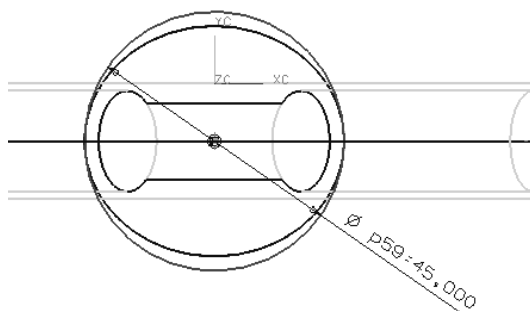

Figure 11-116 The first section curve drawn to create the ruled surface
2. Select the created plane as the sketching plane and draw the sketch, as shown in Figure 11-116.